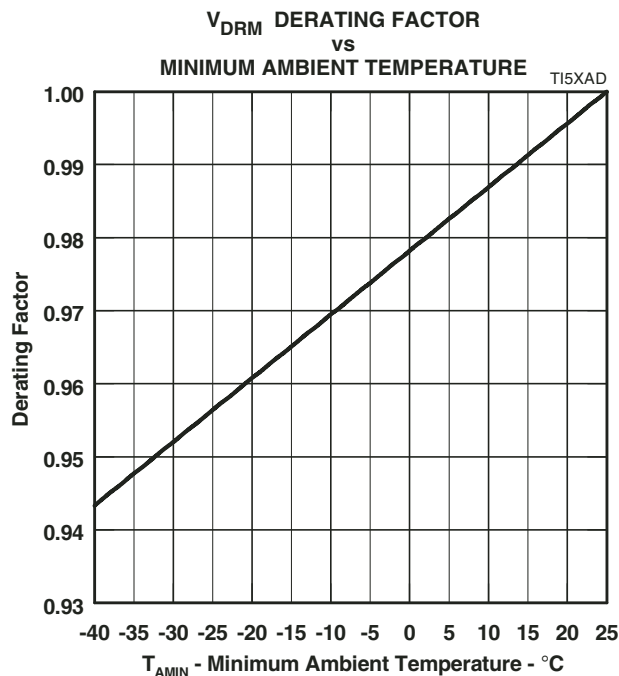

Figure 9.
- NOTES: 1. See Figure 9 for voltage values at lower temperatures.
The protector should not clip or limit the voltages that occur in normal system operation. Figure 9 allows the calculation of the protector  $V_{DRM}$  value at temperatures below 25 °C. The calculated value should not be less than the maximum normal system voltages. The TISP5150H3BJ, with a  $V_{DRM}$  of -120 V, can be used to protect ISDN feed voltages having maximum values of -99 V, -110 V and -115 V (range 3 through to range 5). These three range voltages represent 0.83 (99/120), 0.92 (110/120) and 0.96 (115/120) of the -120 V TISP5150H3BJ  $V_{DRM}$ . Figure 9 shows that the  $V_{DRM}$  will have decreased to 0.944 of its 25 °C value at -40 °C. Thus, the supply feed voltages of -99 V (0.83) and -110 V (0.92) will not be clipped at temperatures down to -40 °C. The -115 V (0.96) feed supply may be clipped if the ambient temperature falls below -21 °C.